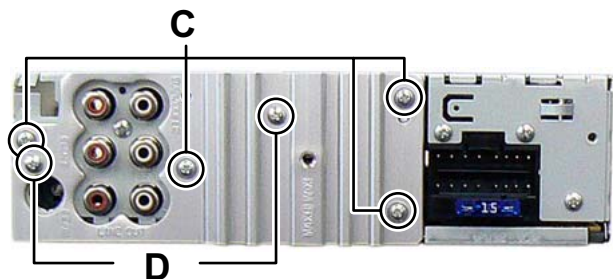

Fig.3
#### 3.1.2 Removing the HEAT SINK (See Fig.3, 4)
- (1) Remove the four screws **C** and the two screws **D** attaching the HEAT SINK. (See Fig.3)